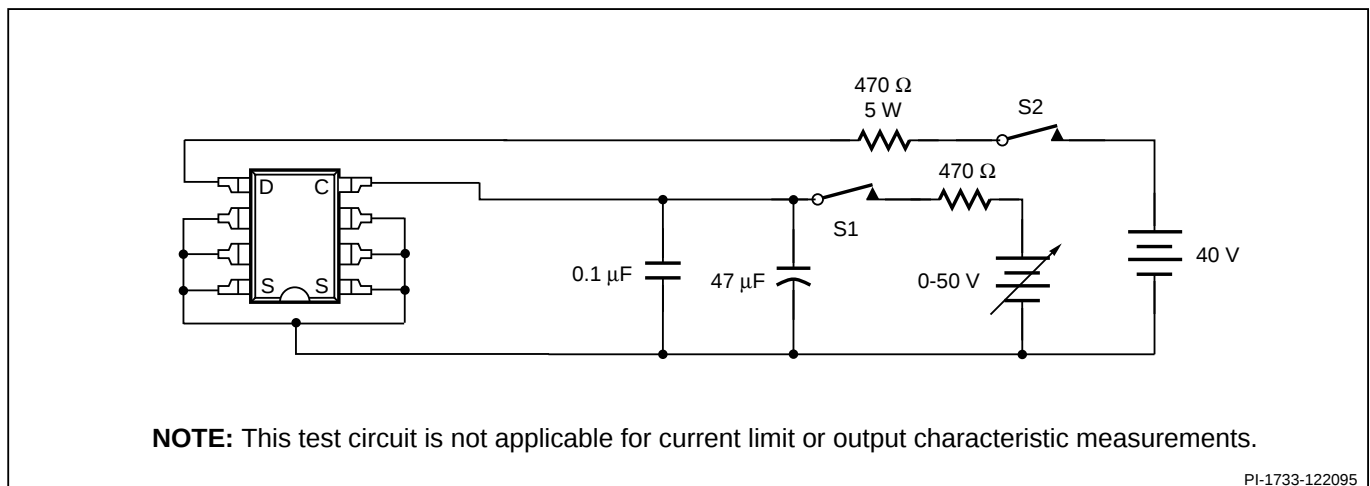

Figure 12. TOPSwitch General Test Circuit.
- The breakdown & leakage measurements can be accomplished by using the *TOPSwitch* auto-restart feature. The divide-by-8 counter in the auto-restart circuitry disables the output MOSFET from switching in 7 out of 8 cycles. To place the *TOPSwitch* in one of these cycles, the following procedure can be carried out using the modified circuit of Figure 12:
The following precautions should be followed when testing TOPSwitch by itself outside a power supply. The schematic shown in Figure 12 is suggested for laboratory testing of TOPSwitch.